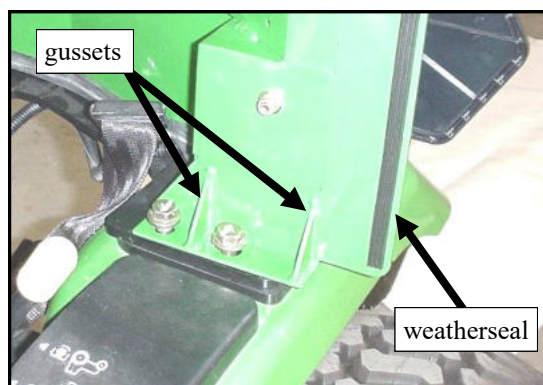

Fig. 3.1 View from left side of vehicle
3.1 Install the rear leg oriented as shown in fig. 3.1 (with the gussets facing the front and the weatherseal towards the outside of the vehicle). Re-install the 2 original equipment bolts, but do not tighten. Repeat for opposite side.